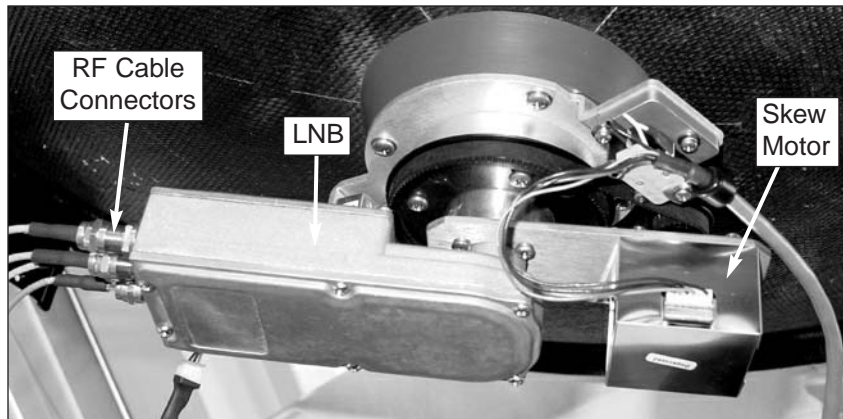
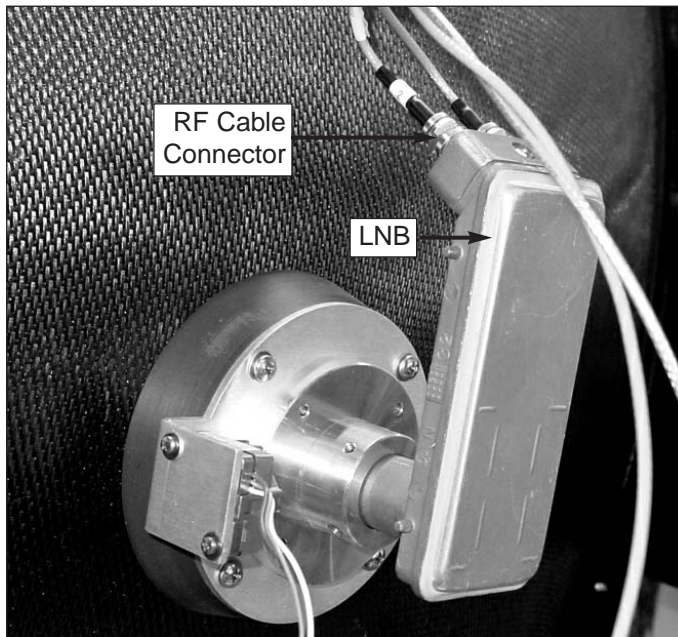

Figure 5-38
Figure 5-44
1. Using a $\frac{7}{16}$ " wrench, carefully disconnect the RF cables from the LNB. (Figure 5-43 shows a North American-style LNB; Figure 5-38 on page 117 shows a European-style LNB).
1. Using a $\frac{7}{16}$ " wrench, carefully disconnect the RF cables from the LNB. (Figure 5-44 shows a North American-style LNB; Figure 5-38 on page 117 shows a European-style LNB).